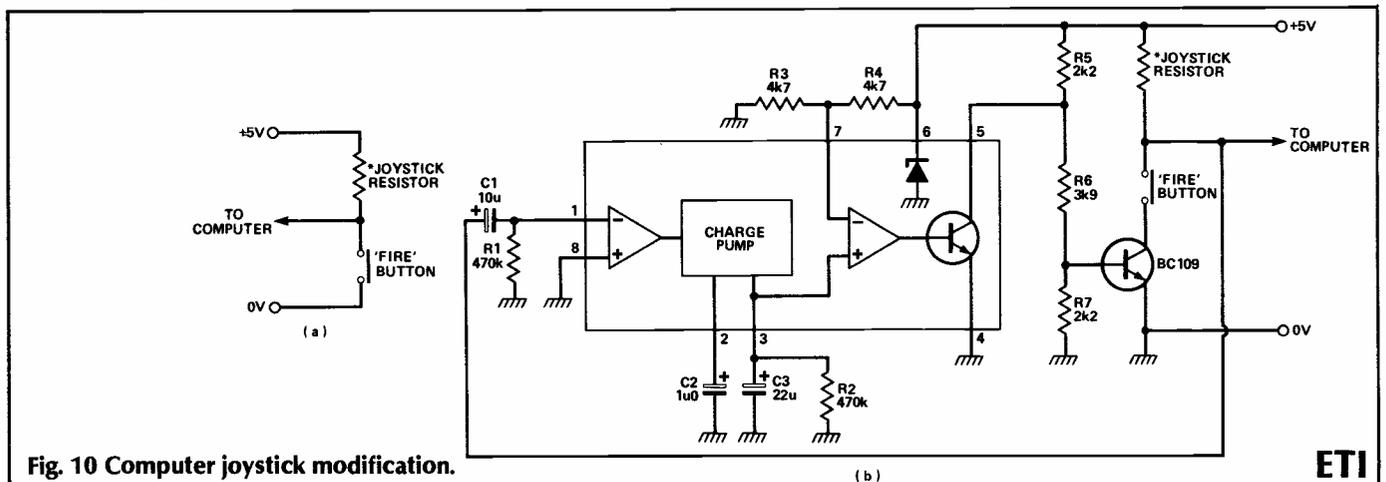

Fig. 10 Computer joystick modification.
4) On many zap-the-alien type computer games, the players have unlimited shots. You can add a new edge to old games with the circuit of Fig. 10. If you haven't take any pot shots for a while,  $C2$  will have discharged via  $R2$  and will be close to 0V. When you start to shoot,  $C3$  will charge up in steps, as in the staircase type circuits mentioned above. This means that you can shoot as fast as you like ... for a while. As soon as the voltage across  $C3$  approaches the cut-off point, you'll have to ease up.
Although the IC has a 7.5V internal regulator, it can be used with supplies down to 4 or 5V (Fig. 10). The lack of